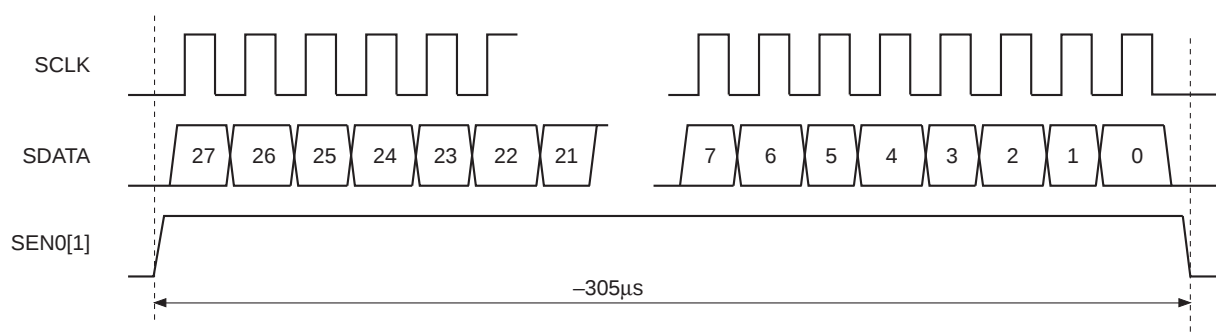

Fig. 7. 3-Wire Bus : Mode 1 Operation
- Mode 1** :The CPU loads 4 I²C bus registers inside the TCM demodulator with 28 bits of data. The CPU selects which SEN0 or SEN1 output should be used by programming the I²C bus register bit (SEL), and then commands (by setting an I²C bus register bit SEND) the 3-wire bus state machine to transmit these 28 bits out of the 3-wire interface as shown in Fig. 7. When the transmission is complete, the I²C bus register bit (SEND) is reset to zero by the 3-wire bus state machine. This allows the CPU to poll the SEND bit to determine when it is able to write further data to the 3 I²C bus registers if it is necessary to send more data. The rate of transmission is fixed at 10.67 μ s per bit when using a 30MHz crystal oscillator on the CXD1958Q demodulator IC. The bit ordering of transmission starts with bit 27.